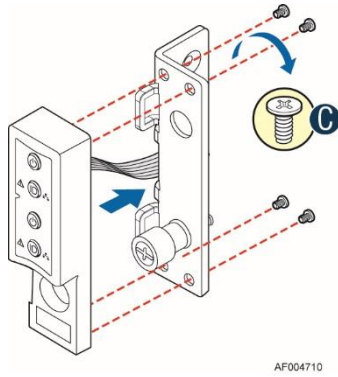

Figure 65. Installing the front control panel assembly to the rack handle
3. Install the front control panel assembly to the rack handle with the four screws (C) as pictured in Figure 65.